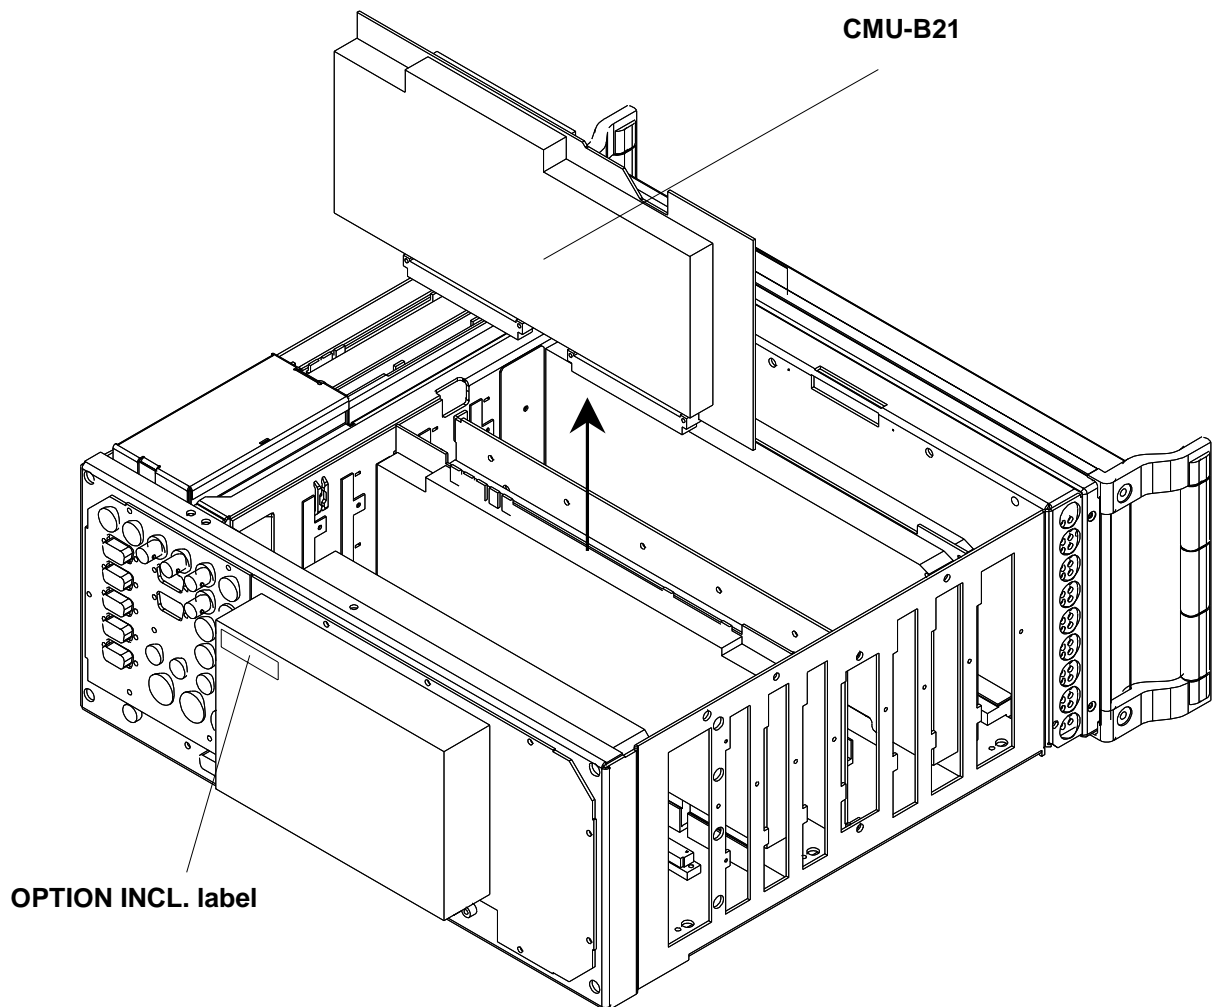

Fig. 3
- Remove module CMU-B21 from slot seven as viewed from the front and undo screws on shielding enclosure (Fig. 3)
- Affix OPTION INCL. label on power supply unit (Fig. 3)
- Fit enclosure to module and insert module into the unit (Fig. 3).